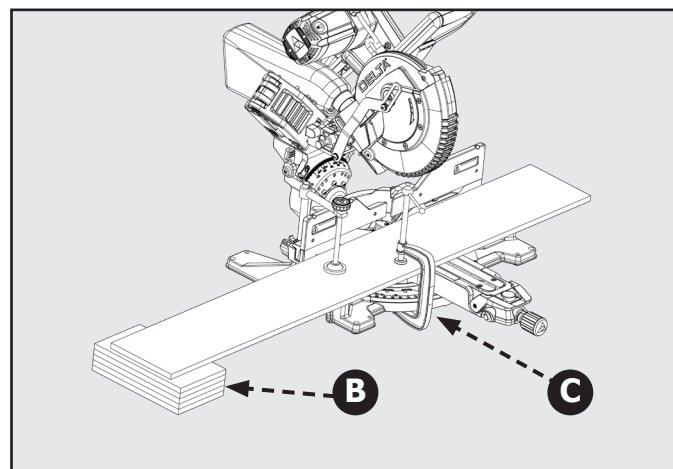

Figure 17
In most cases the included table extensions (workpiece supports) will be sufficient to support longer workpieces. If these are not long enough, the workpiece should be supported further out from the saw. Additional support (B) may be used to make the workpiece lay flat on the saw table. Use the included work clamp or a C-clamp (C) to secure the workpiece to the miter saw table. See Figure 17.